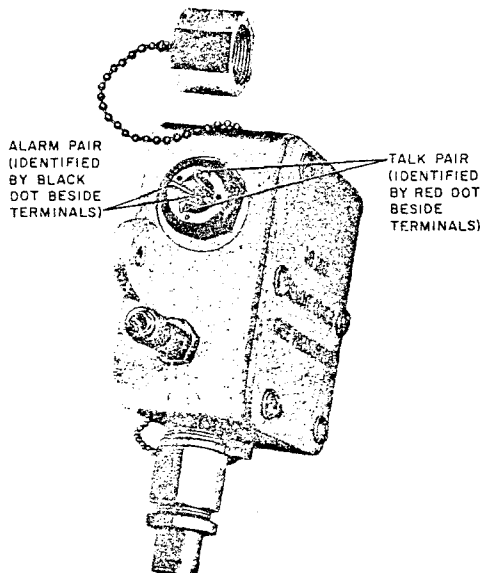

Fig. 3—Talk and Alarm Pair Identification
2.04 After installation, the talk and alarm pairs are accessible through a glass bead terminal covered by a waterproof cap. See Fig. 3 for alarm and talk pair identification.
- (1) Attach a C pressure gauge to the F pressure valve located on the contactor housing.
- (2) While watching the gauge, pressurize the contactor through the valve located on one end of the copper tubing stub to the required pressure.
- (3) Connect a volt-ohmmeter, set to read ohms, to the external alarm pair terminals (Fig. 3).
- (4) Slowly turn the adjustment screw clockwise until the meter indicates zero resistance (closed circuit). At this point, reverse adjustment screw rotation until the meter ***just*** indicates infinite resistance (open circuit).
- (5) The contactor now is set to operate at the pressure indicated on the C pressure gauge.